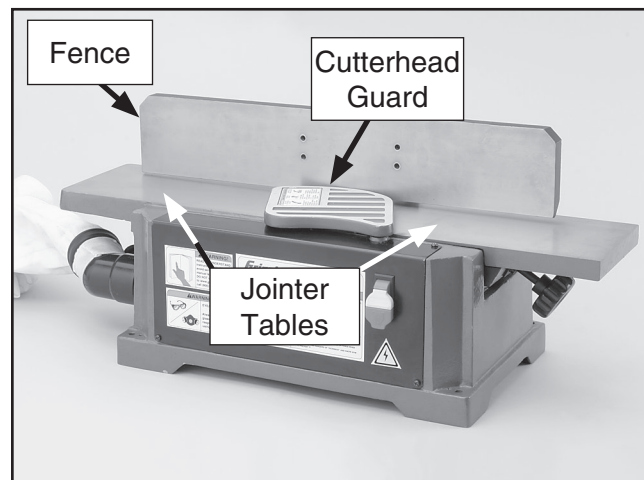

Figure 14. Fence positioned over the jointer tables.
3. Slide the fence forward until it contacts the cutterhead guard and the cutterhead guard completely covers the cutterhead as shown in **Figure 14**.